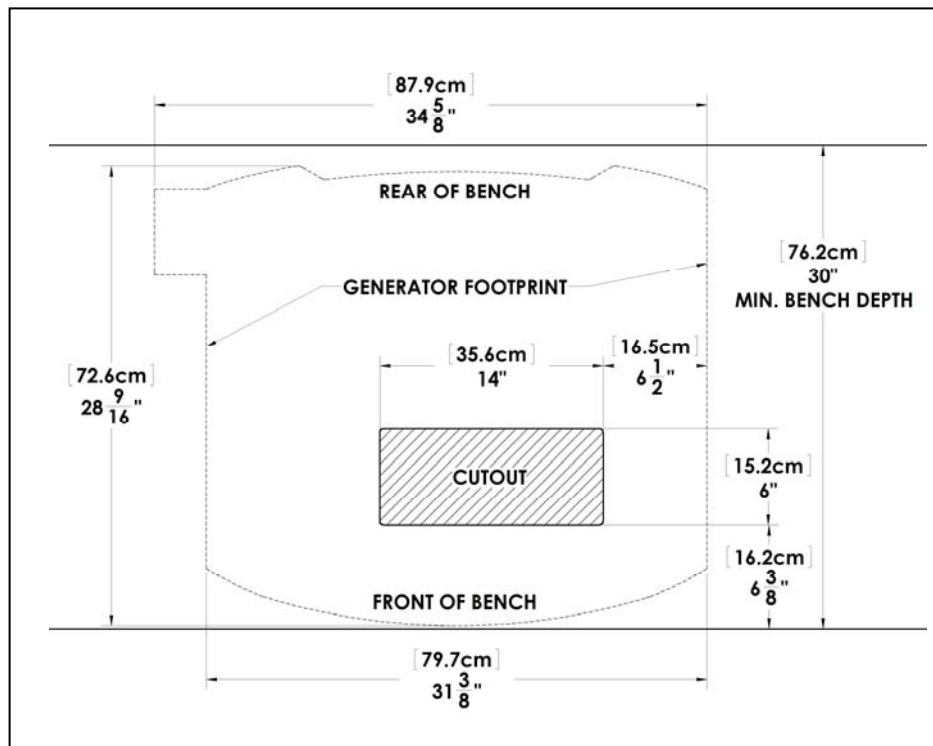

Figure 1.7: Counter top layout with cut-out
2. Referring to Figure 1.7, mark a rectangular cutout area positioned and dimensioned as shown in the figure. The vacuum hose and power cord will pass through this cutout to connect the vacuum unit below to the generator, thus the supporting structure of the counter must provide clearance for the vacuum unit and its hoses.